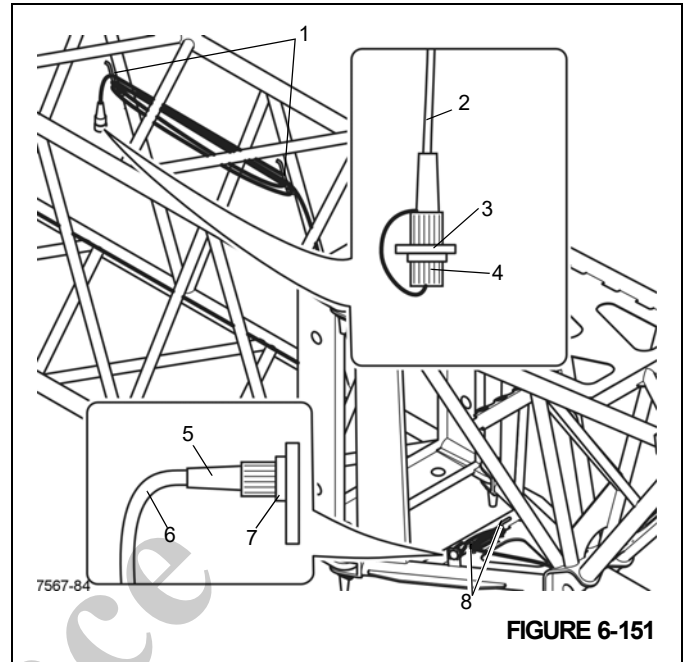

FIGURE 6-151
1. Remove the bridging plug (5), (Figure 6-151) from the socket (3), (Figure 6-151) and plug it into the dummy socket (7), (Figure 6-151).
2. Wind the cable (6), (Figure 6-151) on to the holder (8), (Figure 6-151).
3. Install the protective cap on the socket (3), (Figure 6-151).
4. Wind the cable (2), (Figure 6-151) onto the holder (1), (Figure 6-151).